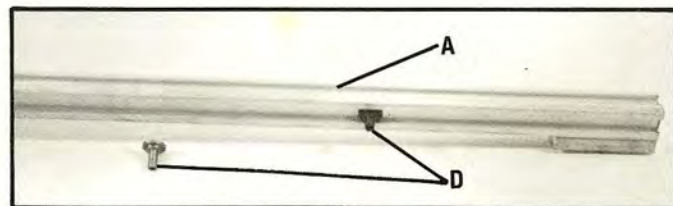

Fig. 21
6. Slide two clamp shoes (D) Fig. 21, into bottom slot of cross-cut fence (A).